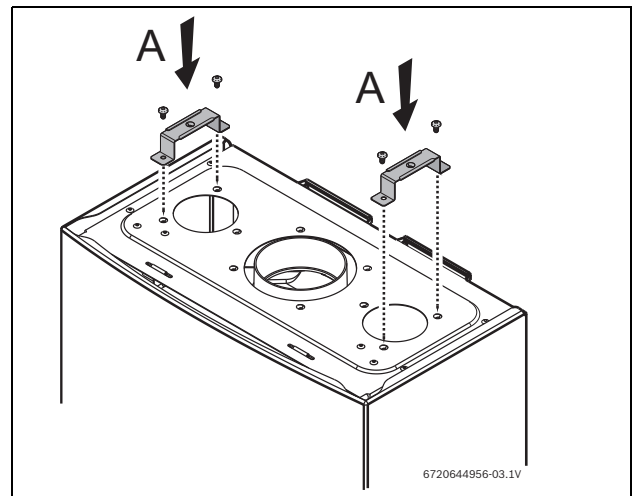

Fig. 13
- 1. Attach the supports (A) to the appliance by fastening with the four provided screws, as shown in Fig. 13.